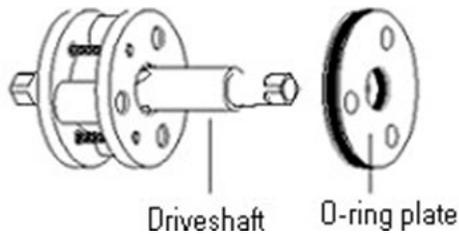

Figure D-8. Disassemble O-Ring Plate from Driveshaft
- Take care to hold the rest of the subassembly together, and slide the O-Ring plate off the drive shaft (Figure D-8). Refer to reassembly instructions in Assembly after the subassembly comes apart).